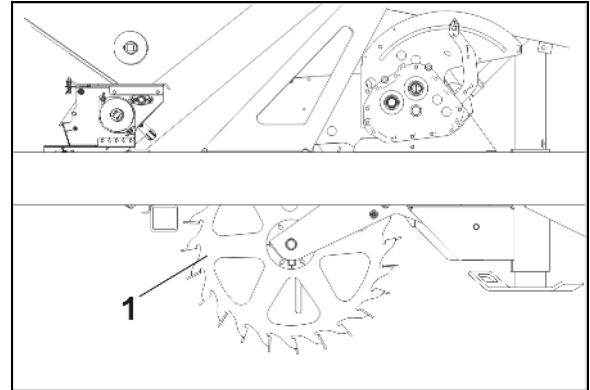

Fig. 24
- Via the Vario gearbox the star wheel (Fig. 24/1) drives the metering rollers in the seed metering system